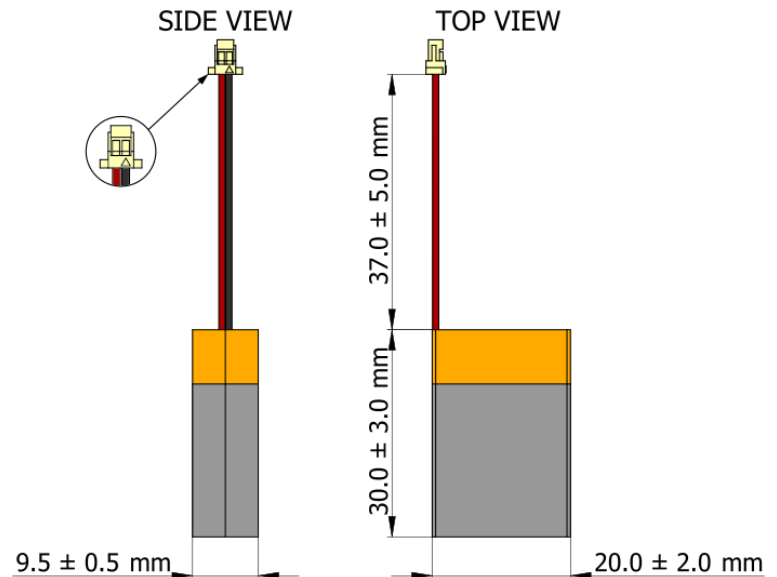

Figure 1: 500mAh Battery Drawing & Dimensions
**1.1 Outline Dimensions:** See attached drawing, Figure 1, for dimensions.